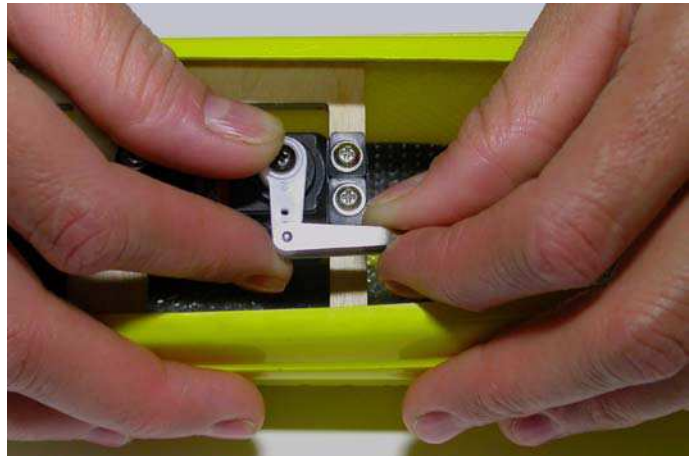

Fig.92: Connecting the clevis.
- connect the clevis of the front pushrod group to the single arm servo horn as shown in figure 92;